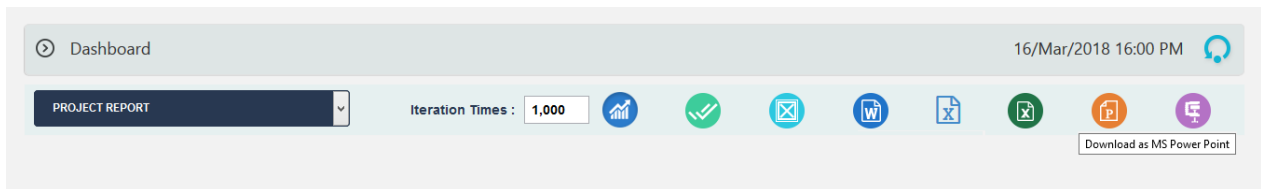

Figure 2.83
3. Click the **Power point** icon to export the chart to **MS Power Point**. (Figure 2.83)